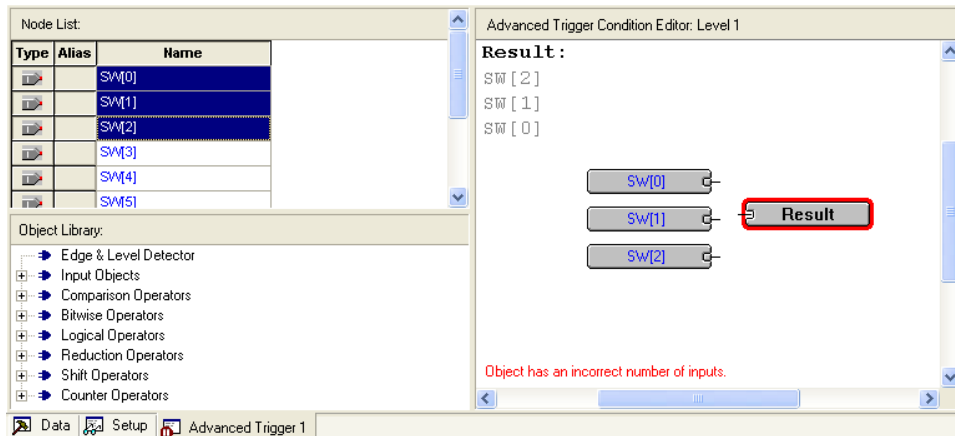

Figure 22. The three input nodes of interest dragged into the Advanced Trigger Editing Window.
4. In the node list section of this window, highlight the 3 nodes SW[0] to SW[2], and click and drag them into the white space of the Advanced trigger window, resulting in Figure 22. Note that you can also drag and drop each node individually.